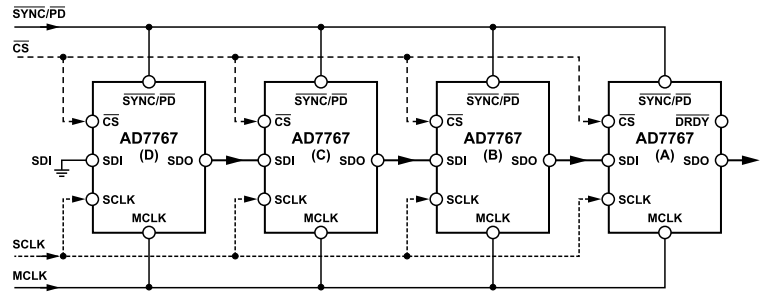
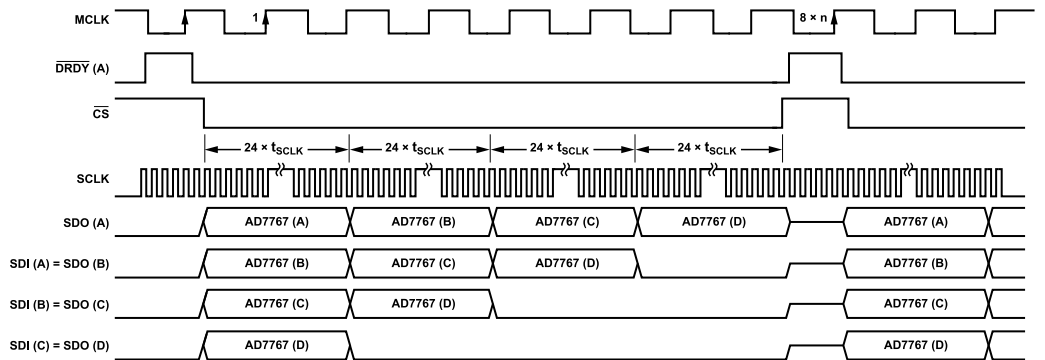
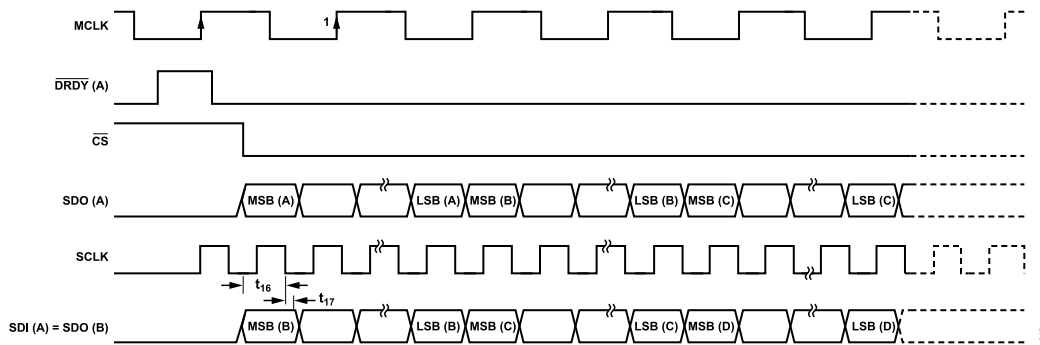

Figure 36. Daisy-Chain Configuration with Four AD7767 Devices
Figure 37. Daisy-Chain Timing Diagram ($n = 1$ for AD7767, $n = 2$ for AD7767-1, $n = 4$ for AD7767-2) When Driving the AD7767
Figure 38. Daisy-Chain SDI Setup and Hold Timing
The block diagram in Figure 36 shows how devices must be connected to achieve daisy-chain functionality. The scheme shown operates by passing the output data of the SDO pin of an AD7767 device to the SDI input of the next AD7767 device in the chain. The data then continues through the chain until it is clocked onto the SDO pin of the first device in the chain.
An example of a daisy chain of four AD7767 devices is shown in Figure 36 and Figure 37. In the case illustrated in Figure 36, the output of the AD7767 labeled A is the output of the full daisy chain. The last device in the chain (the AD7767 labeled D) has its serial data input (SDI) pin connected to ground. All the devices in the chain must use common MCLK, SCLK, \overline{CS} , and $\overline{SYNC/PD}$ signals.
After applying a $\overline{SYNC/PD}$ pulse to all the devices, there is a delay (as listed in Table 7) before valid conversion data appears at the output of the chain of devices. As shown in Figure 37, the first conversion result is output from the AD7767 device labeled A. This 24-bit conversion result is followed by the conversion results from the devices labeled B, C, and D, respectively, with all conversion results output in an MSB-first sequence. The stream of conversion results is clocked through each device in the chain and is eventually clocked onto the SDO pin of the AD7767 device labeled A. The conversion results of all the devices in the chain must be clocked onto the SDO pin of the final device in the chain while its \overline{DRDY} signal is active low. This is illustrated in the examples shown (Figure 37 and Figure 38), where the conversion results from the devices labeled A, B, C, and D are clocked onto SDO (A) during the time between the falling edge of \overline{DRDY} (A) and the rising edge of \overline{DRDY} (A).
As shown in Figure 37, the number of SCLK falling edges that occur during the period when \overline{DRDY} (A) is active low must match the number of devices in the chain multiplied by 24 (the number of bits that must be clocked through onto SDO (A) for each device).